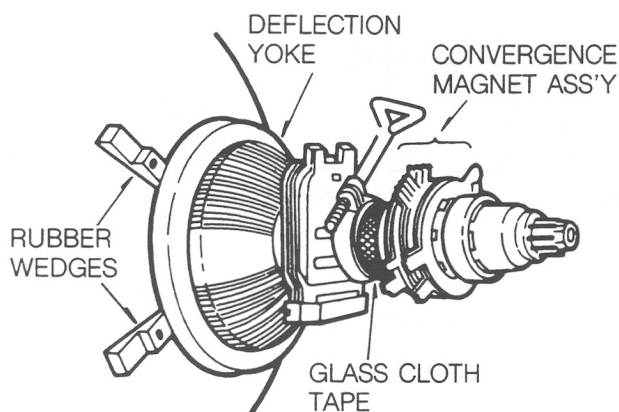

Fig. 15 Rubber Wedges Location
2. Place a wedge as shown in Fig. 15 temporarily. (Do not remove cover paper on adhesive part of the wedge).
9. Stick 3 adhesive tapes on wedges as shown in Fig. 15.